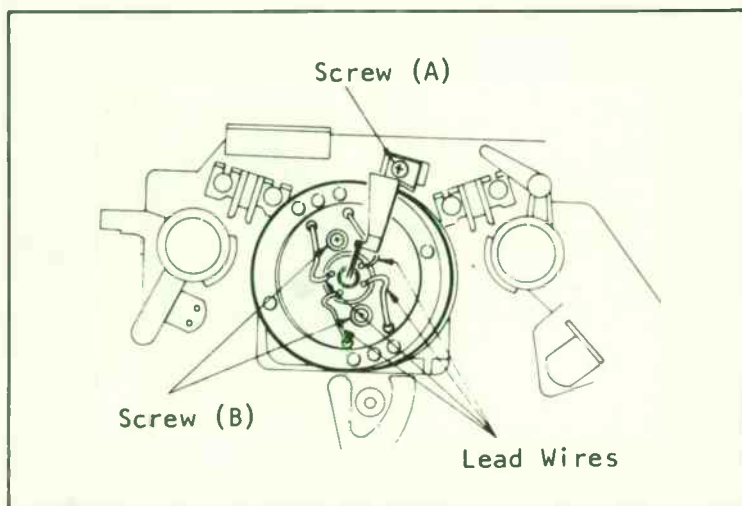

Fig. 10-2. Upper cylinder head unit (courtesy of Magnavox).
1—Remove screw (A) and discharge brush unit as illustrated in Fig. 10-2.